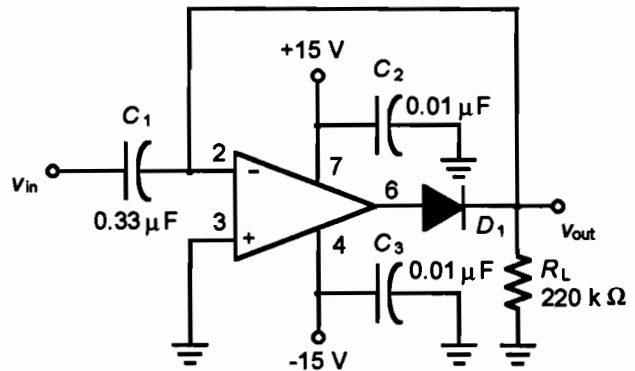

Figure 55.3
1. Construct the circuit in Figure 55.3. Connect your function generator to the clamper input and apply DC power.